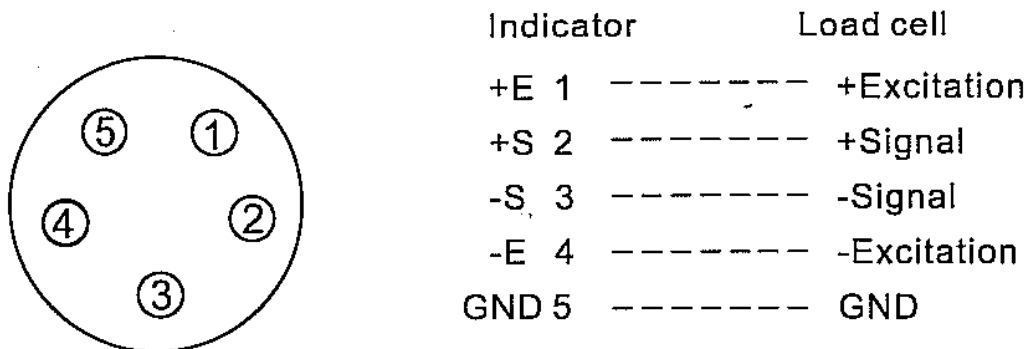

FIG 1.2
**(Anodized Enclosure) See fig 1.2**
**(Anodized Enclosure Only) See Fig 1.2**